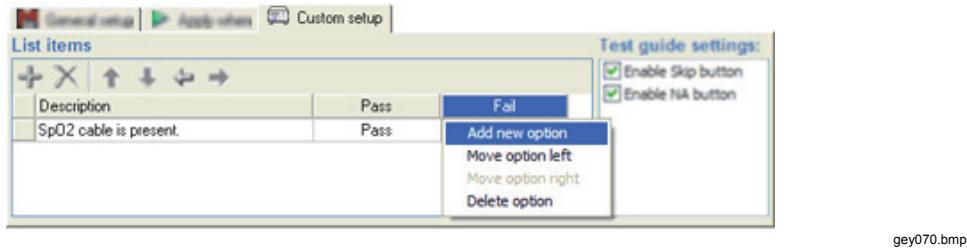

Figure 3-30. Edit Option Menu for a Checklist
2. Right click in the column named **Fail** in the **List Items** frame shown in Figure 3-30 to display the edit option menu.